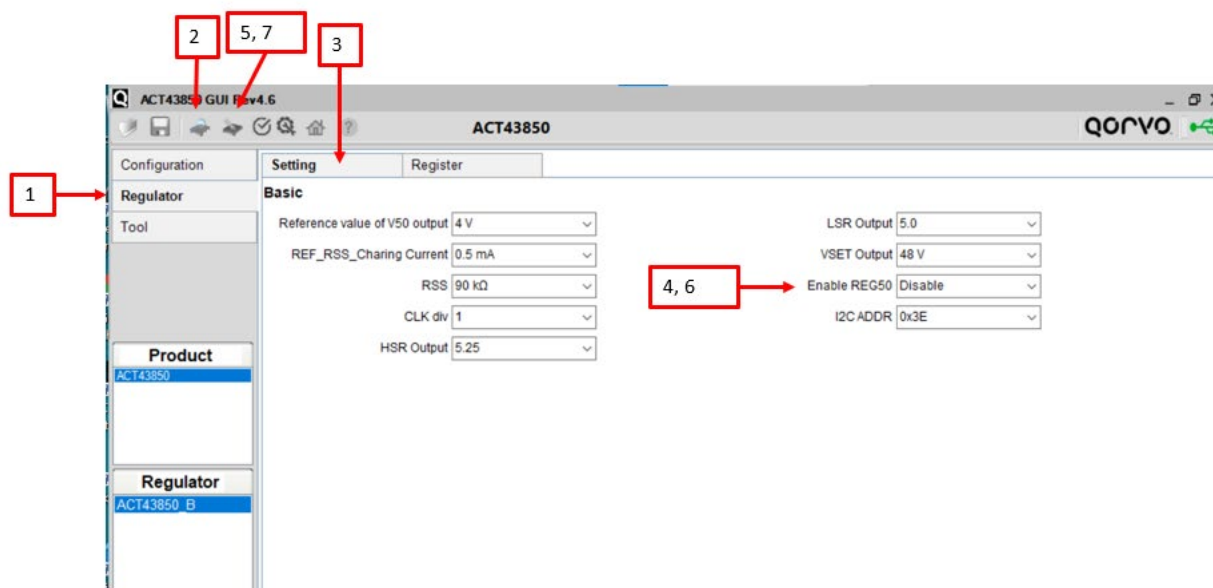

Figure 6. ACT43850EVK GUI
Refer to the end of this document for detailed instructions to install the ACT43850 GUI and Figure 6 for GUI interface.
- c. Click "Enable REG50" button to select "enable". Then click on the "write" icon to enable the ACT43850. Refer to figure 6
- a. Using the GUI, click on "disable " from "Enable REG50". Then click on the "write" icon to disable the ACT43850. Refer to Figure 6.